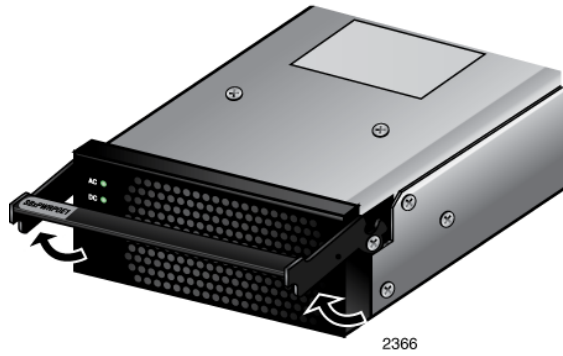

Figure 49. Unlocking the Handle on the AT-SBxPWRPOE1 Power Supply
4. Raise the locking handle on the AT-SBxPWRPOE1 Power Supply, as shown Figure 49 on page 116.